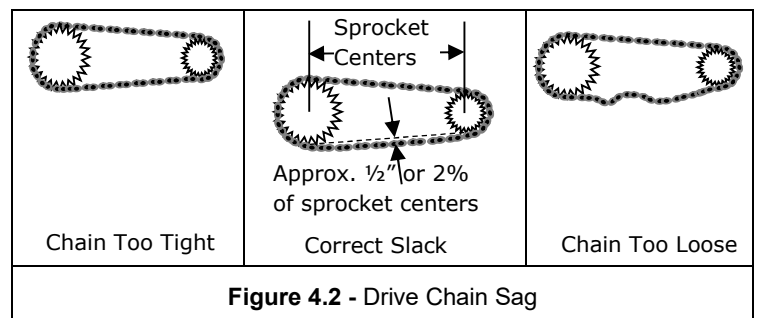

Figure 4.2 - Drive Chain Sag
- Chain should have sag on the slack side per *Figure 4.2*. Measure the sag halfway between the two sprockets.